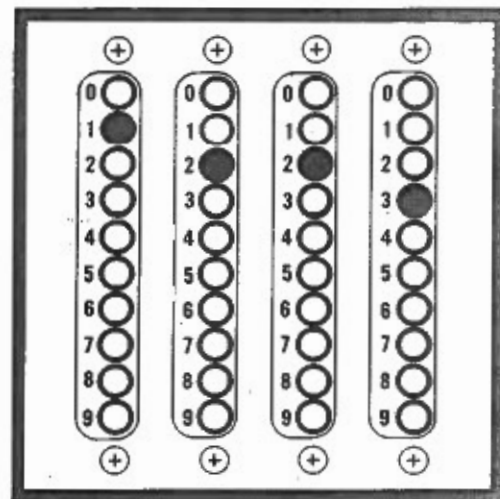

Figure 2.
8. Read lights on Scaler from left to right as thousands, hundreds, tens, and units. (See Figure 2.)